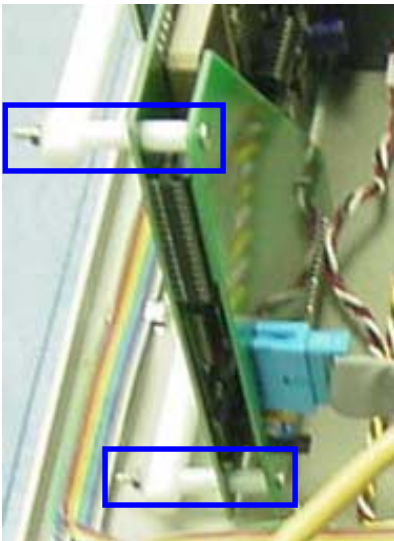

Figure 2. View of the two screws connecting the boards.
4. Remove the two screws connecting the interface board to the CPU board (Figure 2).